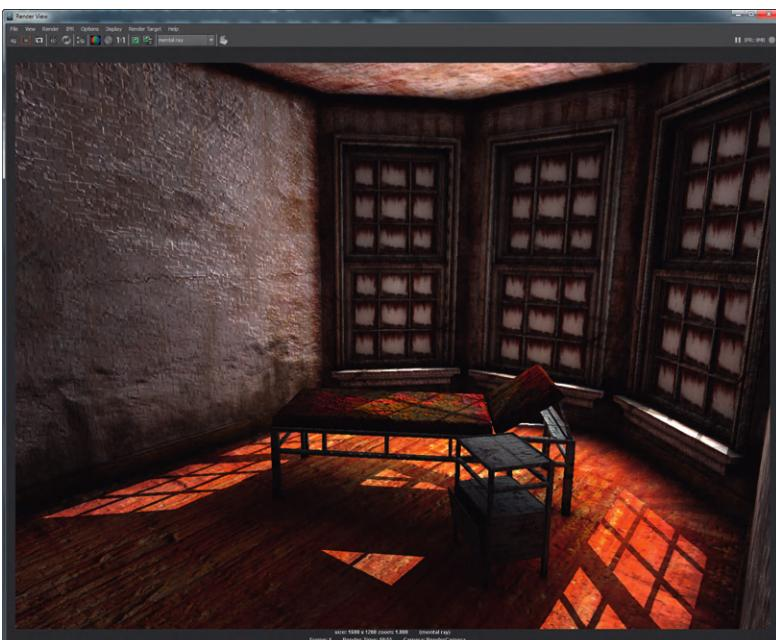

FIG 7.29 Renderings with adjusted lighting intensities.
Step 10: Tweak light intensities. This is largely a personal preference and will take some tweaking and lots of rendering. What I did was turn my Directional Light's intensity up to 1.5 (it is the sun after all and should be pretty intense) and turned my window lights down to 0.25 (Fig. 7.29).